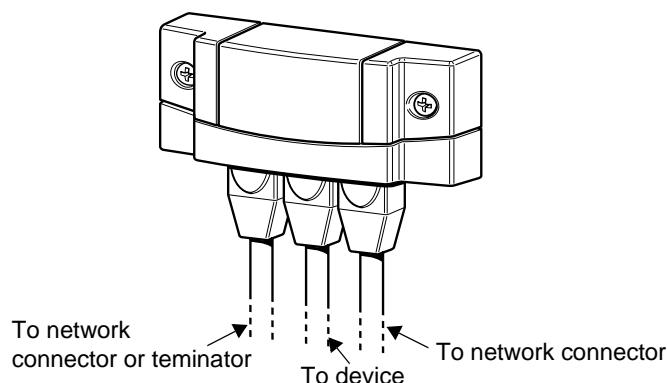

Figure 2-15 Three-Way Network Connector
The network connector is mounted to a bulkhead or a wall, as shown in Figure 2-15.
3. Install one network connector for each Charge Controller. See Figure 2-15 on page 2–19.